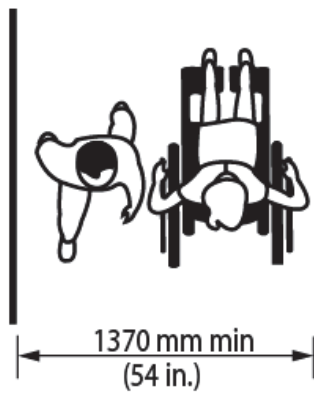

Figure 55: Secondary Accessible Path
- **Secondary accessible path:** 1370 mm (Figure 55)